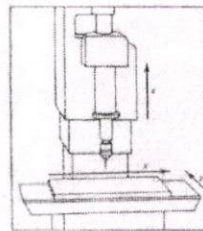

Figure 10.3 Coordinate system for a drill (Y. Koren, Computer Control of Manufacturing Systems, McGraw-Hill, 1981.)
2. On a tool-rotating machine, such as a milling or boring machine, the Z axis is parallel to the tool axis, and the positive motion moves the tool away from the workpiece (Figures 10.3 and 10.4).